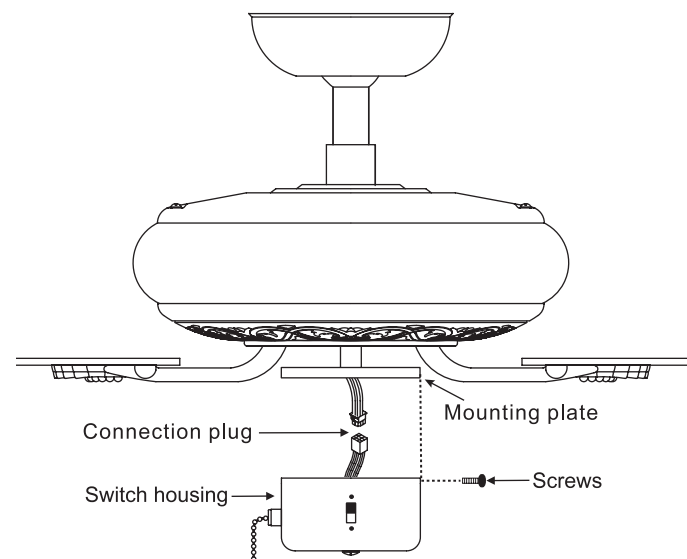

Figure 17
2. While holding the switch housing under your fan, snap together the wire connection plug. (Figure 17)
3. Raise the switch housing to the mounting plate until the holes in switch housing and mounting plate line up. Reinsert screws to secure in place. (Figure 17)